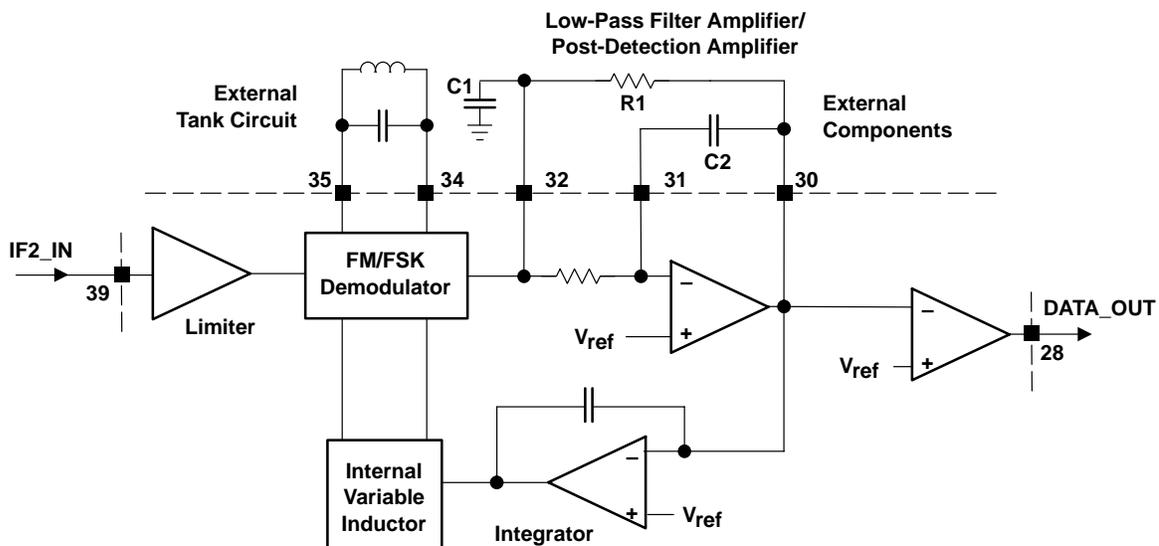

Figure 13. AFC Loop to Control the Data Slicer Decision Threshold
The demodulator is intended for analog (FM) and digital (FSK) frequency demodulation. It consists of a quadrature demodulator with an external LC tank circuit. A variable inductor, internal to the TRF6900, operates in parallel with the external tank circuit (see Figure 13), and is used to adjust the external tank circuit's resonant frequency. If the tolerances of the external demodulator tank circuit components can provide a maximum frequency error of less than 5%, then no additional adjustments are required. As long as the device is in the *learning mode*, the internal reactance automatically fine-adjusts the resonant frequency of the external LC tank circuit. Depending on the supply voltage, the tank circuit tuning range is approximately four times the discriminator 3-dB bandwidth.
The data slicer is fundamentally a comparator. The data slicer provides binary logic level signals, derived from the demodulated and low pass-filtered IF signal, that are able to drive external CMOS compatible inputs. The noninverting input is directly connected to the internal reference voltage, V_{ref} , and the inverting input is driven by the output of the low-pass filter amplifier/post-detection amplifier. The decision threshold of the data slicer is determined by the internal reference voltage, V_{ref} . The automatic frequency control (AFC) loop scheme for the TRF6900 is shown in Figure 13.